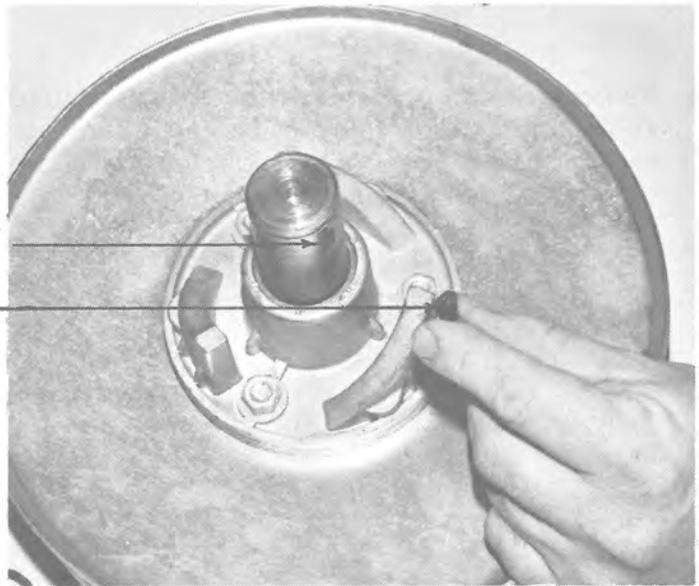

FIG. 4-16
4. Remove key and main spring. (See Figure 4-16.)